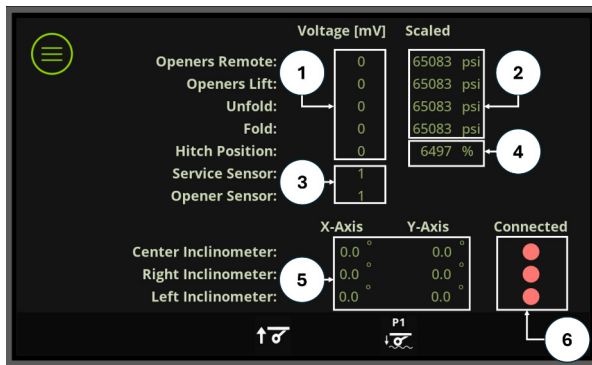

Figure 3.39 Sensor Feedback Page
- millivolt (mV) for each corresponding hydraulic circuit control Figure 3.39 (1).
- Hydraulic pressure (PSI) detected for each corresponding hydraulic circuit Figure 3.39 (2).
- Active opener and service sensor numbers Figure 3.39 (3).
- Percent difference your hitch is currently off center from perfectly straight Figure 3.39 (4).
- Angled Degree detected by each inclinometer Figure 3.39 (5).